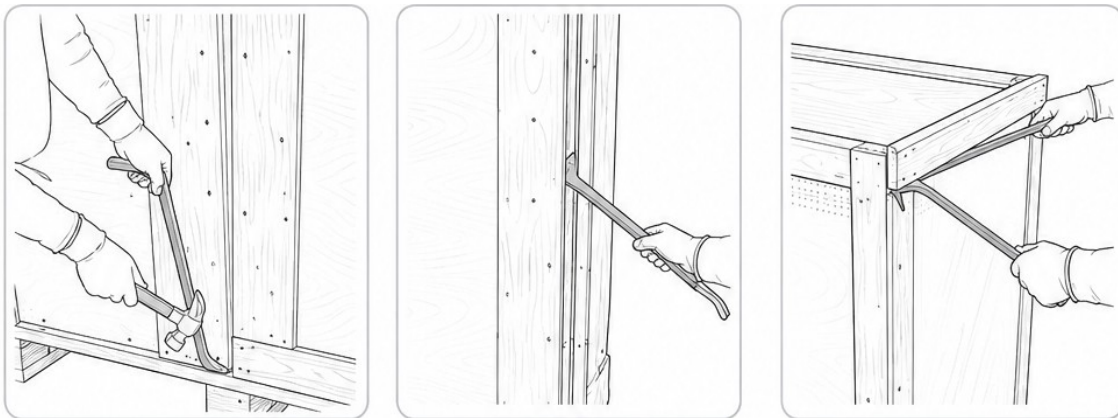

Figure 3. Uncrating: pry the crate front open at the bottom, then the sides, then the top, while your helper holds the contents upright.
- Using the crowbar and hammer, pry the crate front open: bottom first, then sides, then top (Figure 3).